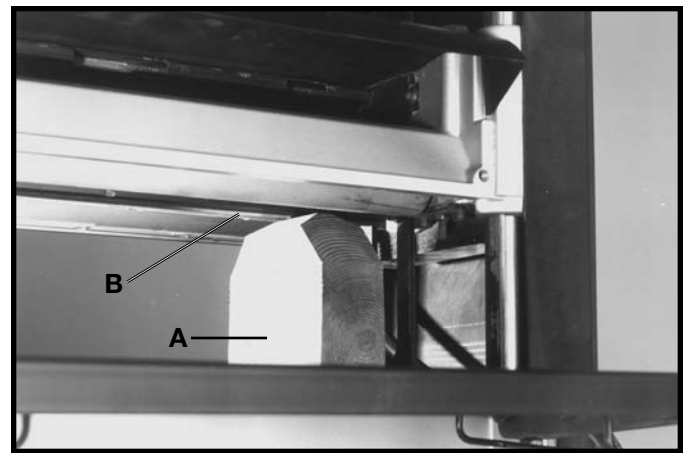

Fig. 34
3. Place the gage block (A) Fig. 34, on the table, over a 0.020" feeler gage and position the gage block (A) directly underneath the cutterhead. Raise or lower the head assembly and rotate the cutterhead, by following **STEP 5** under **“REPLACING KNIVES,”** until one of the knives (B) just touches the top of the gage block when the knife is at its lowest point. Then tighten cutterhead lock handle.